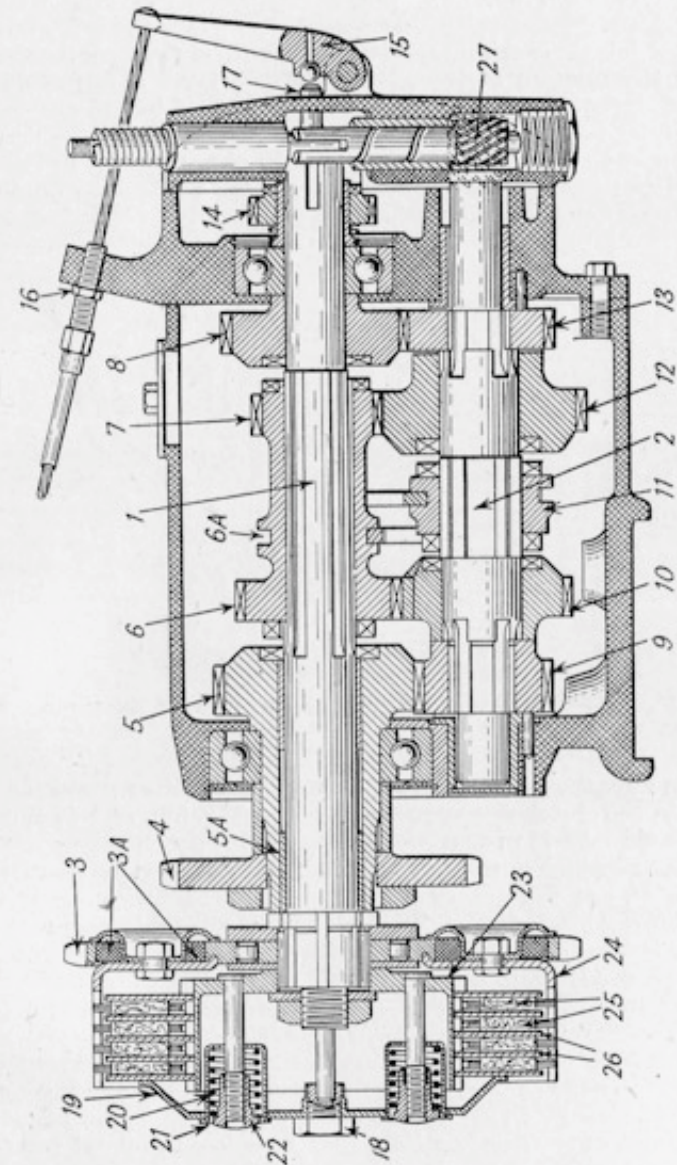

FIG. 33. SECTIONAL VIEW OF BURMAN FOUR-SPEED GEAR-BOX AND FOUR-PLATE SHOCK-ABSORBER CLUTCH
## KEY TO FIG. 33
lock-nut (see Figs. 33, 34). Major adjustment is effected as follows.
On some gearboxes (H.P. type) there is a centre screw and lock-nut in the clutch spring pressure plate (Fig. 33), and wear on the clutch thrust rod may readily be taken up by the screw.
**If the Clutch Slips.** First of all attend to the above adjustments, but if slip persists, screw in the spring adjuster nuts (22, Fig. 33)